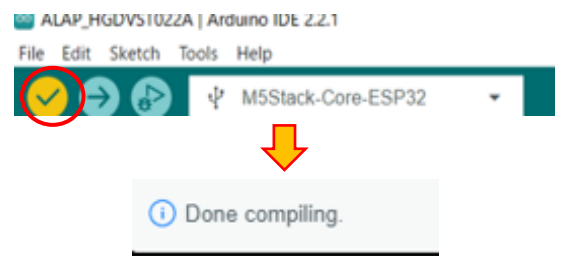

Fig.5
4. Click “✓” for compile and wait for “Done compiling” (Fig.5).